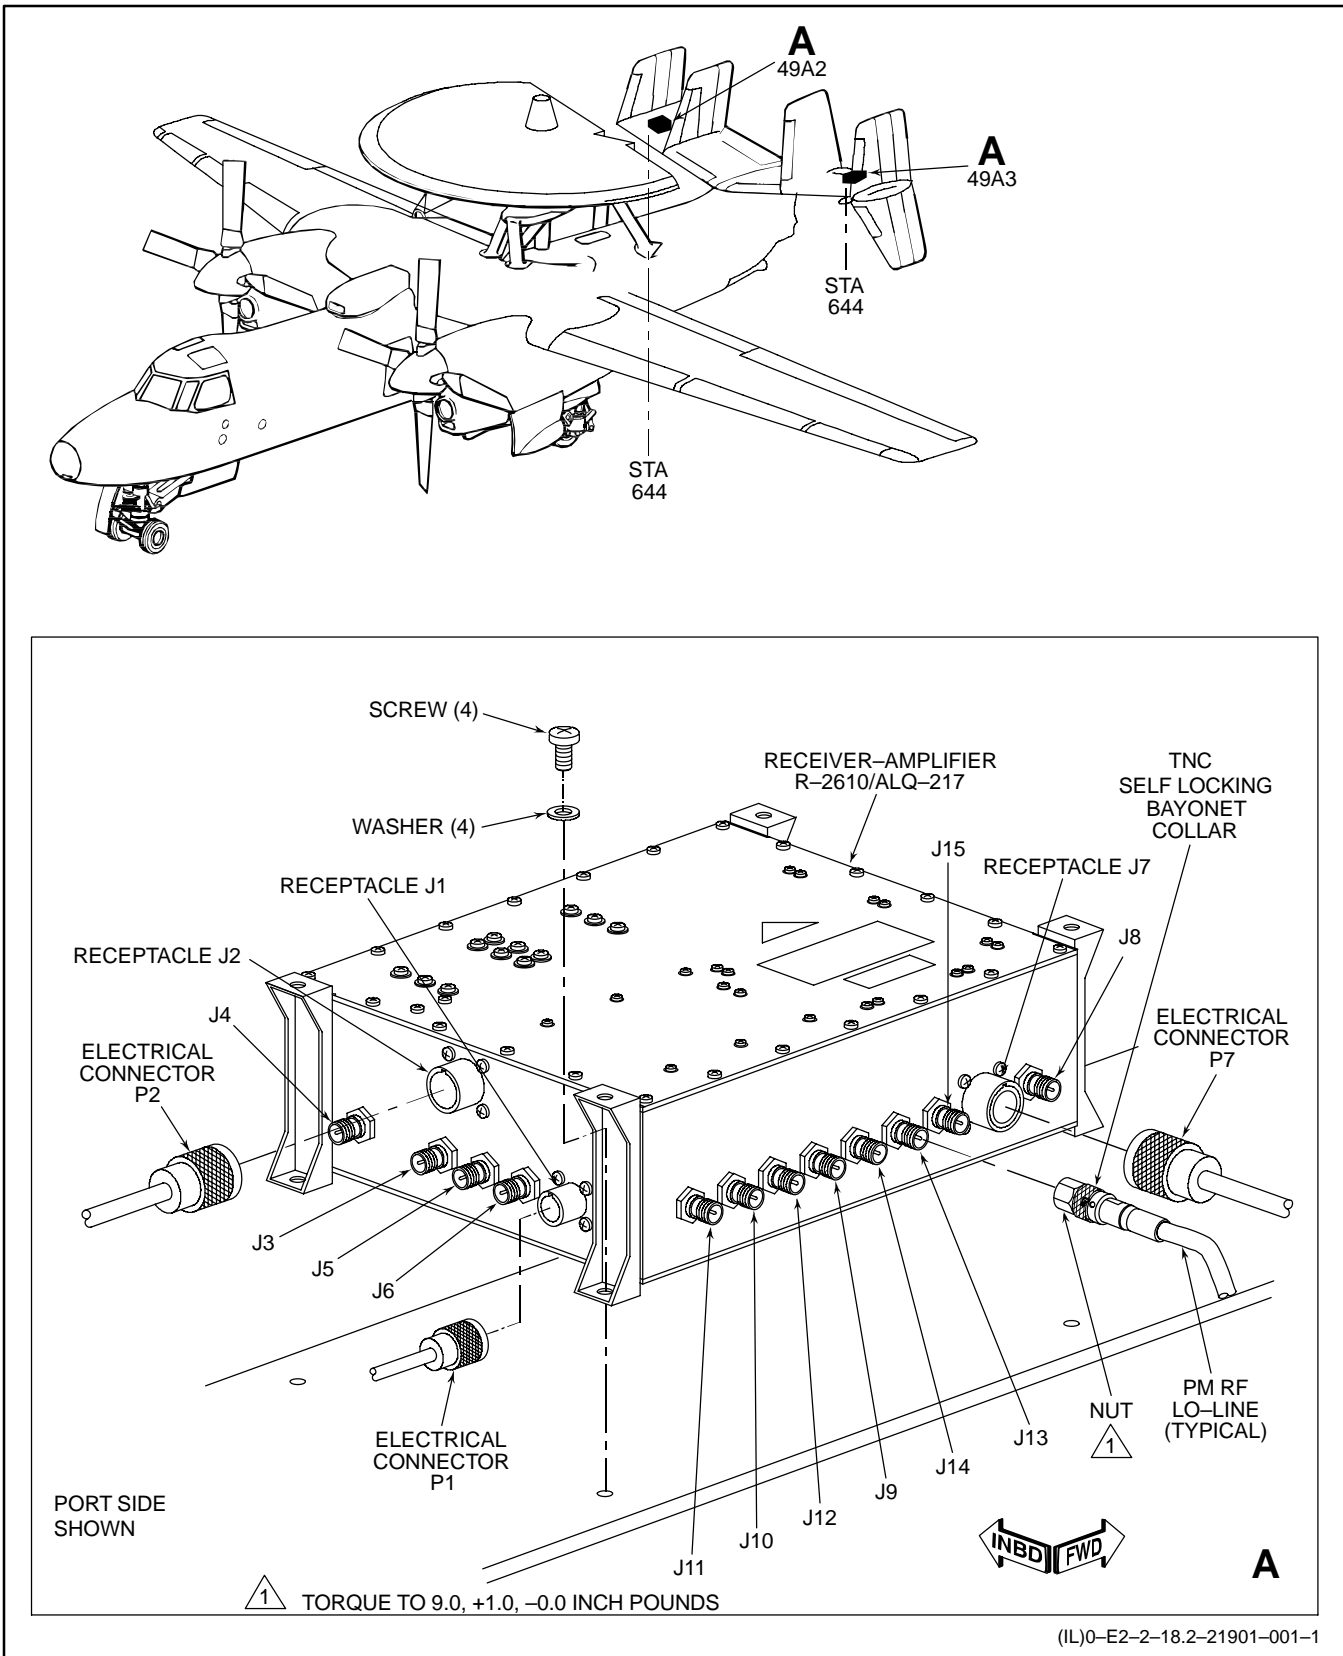

Figure 1. Removal and Installation of Receiver-Amplifier R-2610/ALQ-217
2. **INSTALLATION.** (See figure 1.)